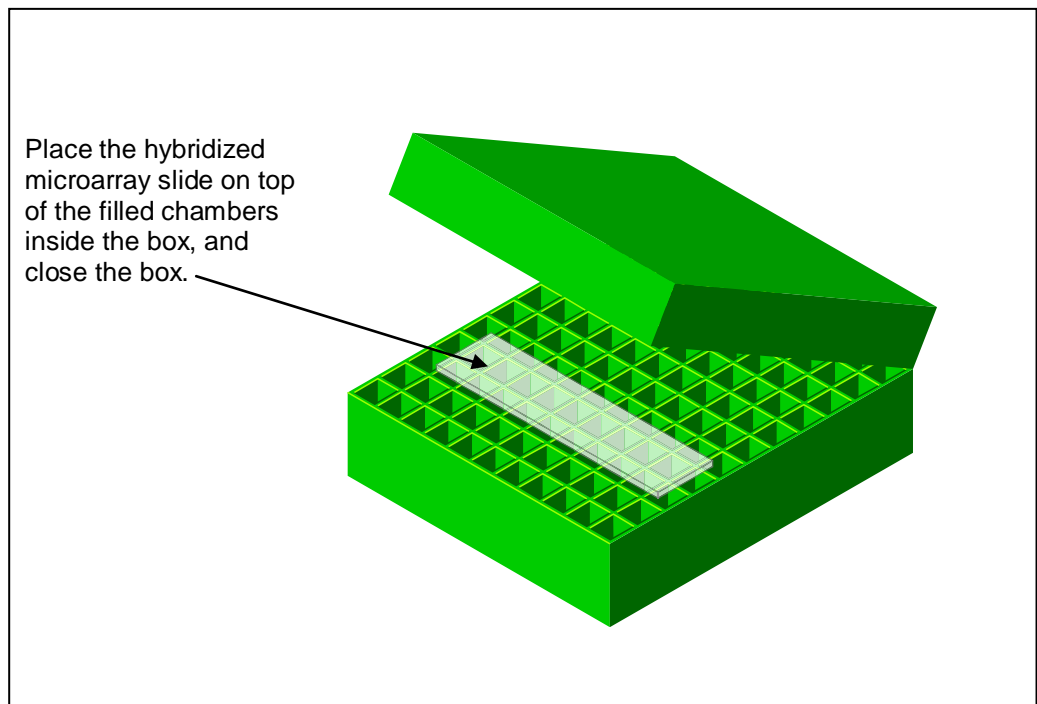

Figure 2: Step 4B.1 → Glass Slide inside Chamber Box²
- 10) Place the entire labeled target plus the microarray set-up into a closable, chambered box* that is humidified by 2 X SSC buffer in the 37°C oven for 14 to 16 hours. A sealed chamber ensures that the appropriate humidity level is maintained during incubation. (See Figure 2).
Figure 2, below, provides an illustration of Step 4B.1, where the hybridization protocol is completed using the glass cover slide method, and specifically, the Human miRNA OneArray[®] Microarray is placed into the chambered box.